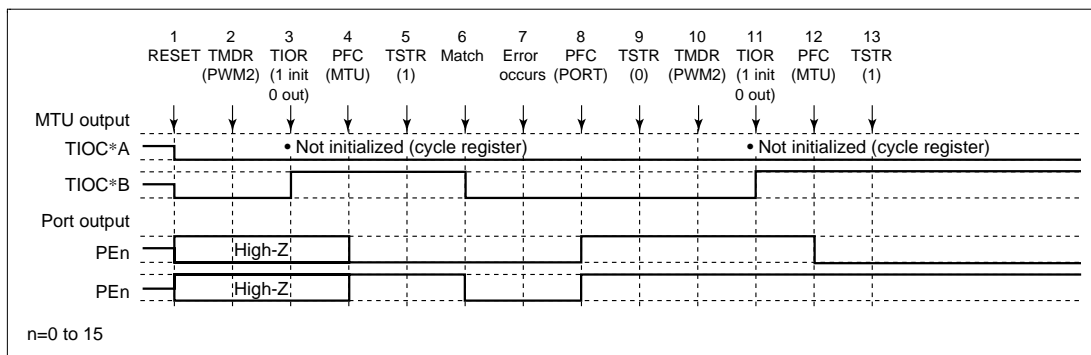

Figure 12.110 Error Occurrence in PWM Mode 2, Recovery in PWM Mode 2
(15) Operation when Error Occurs during PWM Mode 2 Operation, and Operation is Restarted in PWM Mode 2: Figure 12.110 shows an explanatory diagram of the case where an error occurs in PWM mode 2 and operation is restarted in PWM mode 2 after re-setting.